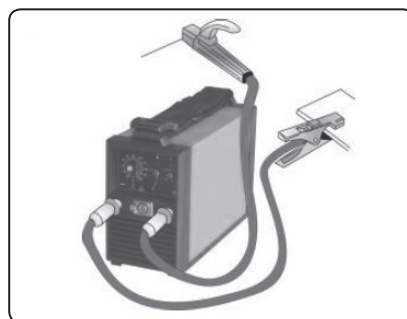

Fig. 2
- 2) Before connecting the inverter to a power source (to a power supply line), first insert the welding cable connectors into the sockets in the inverter and secure them in place by turning them clockwise. Whilst the holder clamp intended for the attachment of the electrode (see fig. 2) is connected, in the absolute majority of cases, to the positive pole on the inverter and the grounding clamp is connected to the negative pole. Nevertheless, verify the necessary polarity for the welding electrode according to the manufacturer's instruction on the electrode package since certain acid electrodes are connected to the negative pole.
- 2) Mount a perfectly dry coated electrode stem into the electrode clamp (see fig. 2). The electrode must not have a damaged coat. Do not use damaged welding electrodes.